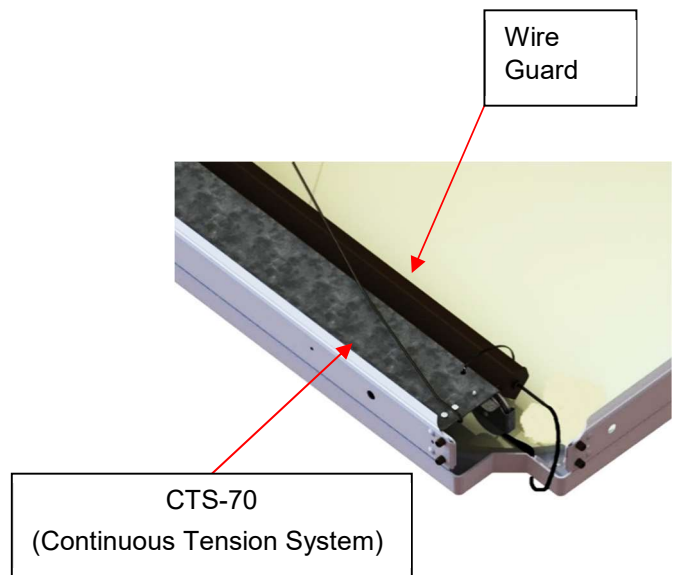

Figure 69
- 4) While holding the outer shell open, cut and remove the two cable ties that hold the wire guard. (Figure 69 and Figure 70)